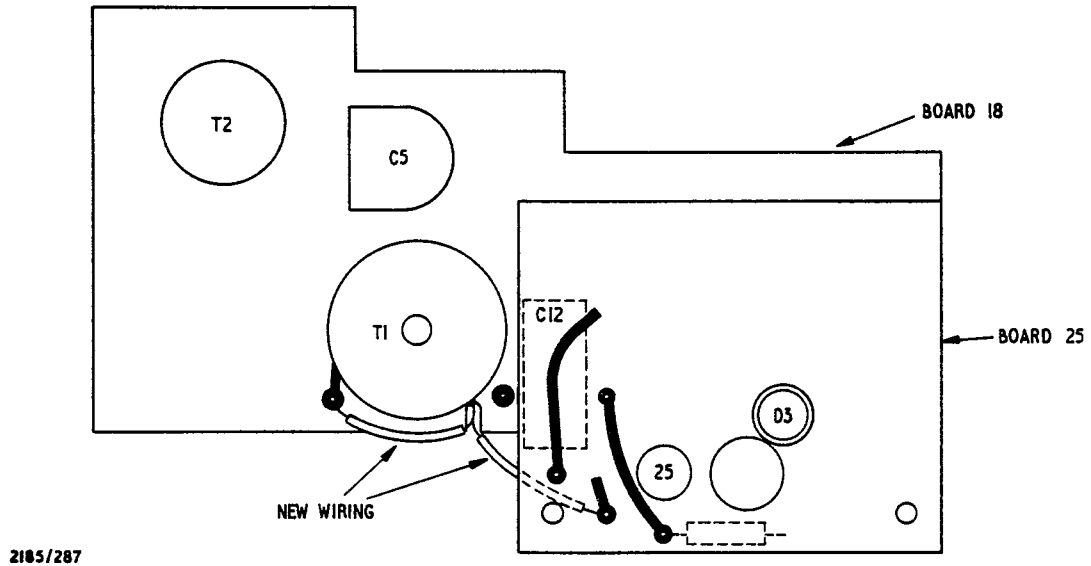

Fig 1 - Wiring modification detail
e. Solder one end of the wire to the tag of the screening can of T1 and the other end to pin 11 on board 18 (see Fig 1).
f. Record the embodiment of this modification by painting a diagonal line through, without obliterating, the figure 1 on the modification record label on the electronic circuit panel (Z1/5820-99-101-9911), with paint finishing, red.
(1) If the figure 1 has not been struck off the equipment modification record plate, demand stores in accordance with the instructions in para 6 below.
(2) On receipt of stores, request the unit responsible for field repairs of the equipment to carry out this modification.
Amplifier, r.f., No 12, Mk 2 - figure 1
Panel, electronic circuit (coded 604/1/01156) - figure 1